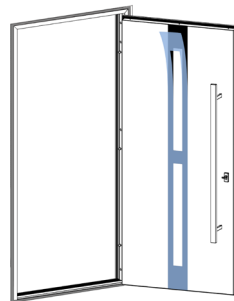

Fig. 27.
5. After completing the installation work, remove the protective films from the door (Fig. 27).